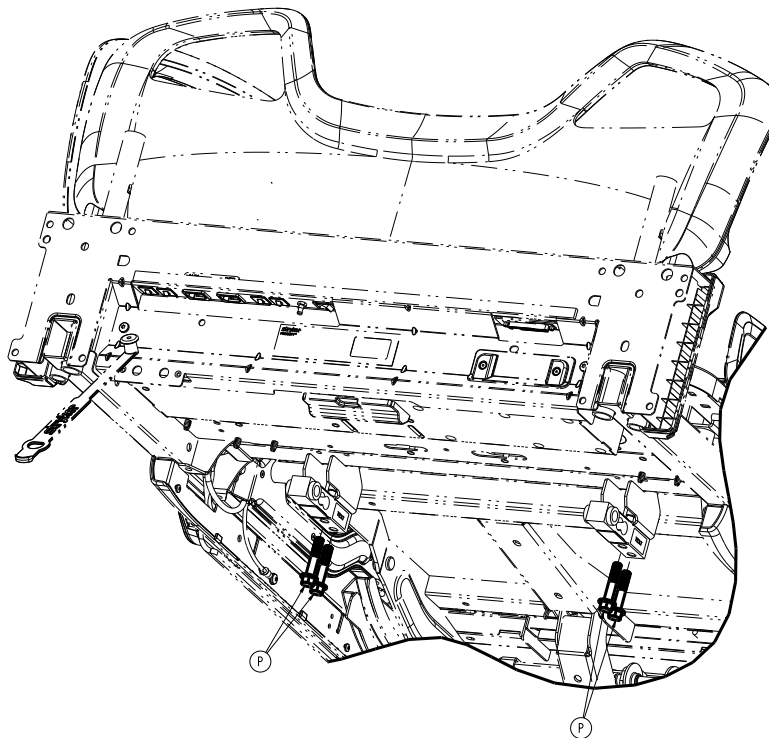

Figure 48 – Replacing the load cell
9. Remove the load cell. Using a ratchet, 9/16" socket, and a 9/16" combination wrench, remove the two bolts (P) and nuts that secure the load cell to the litter frame (Figure 48). Save the bolts and nuts.